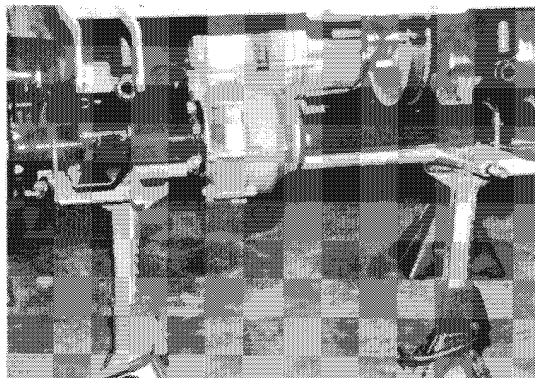

Figure 6-11
8. Place floor jack under engine mounting plate, raise slightly to make contact with engine mounting plate and place jack stands under inner frame spring retainer plates (Figure 6-11).